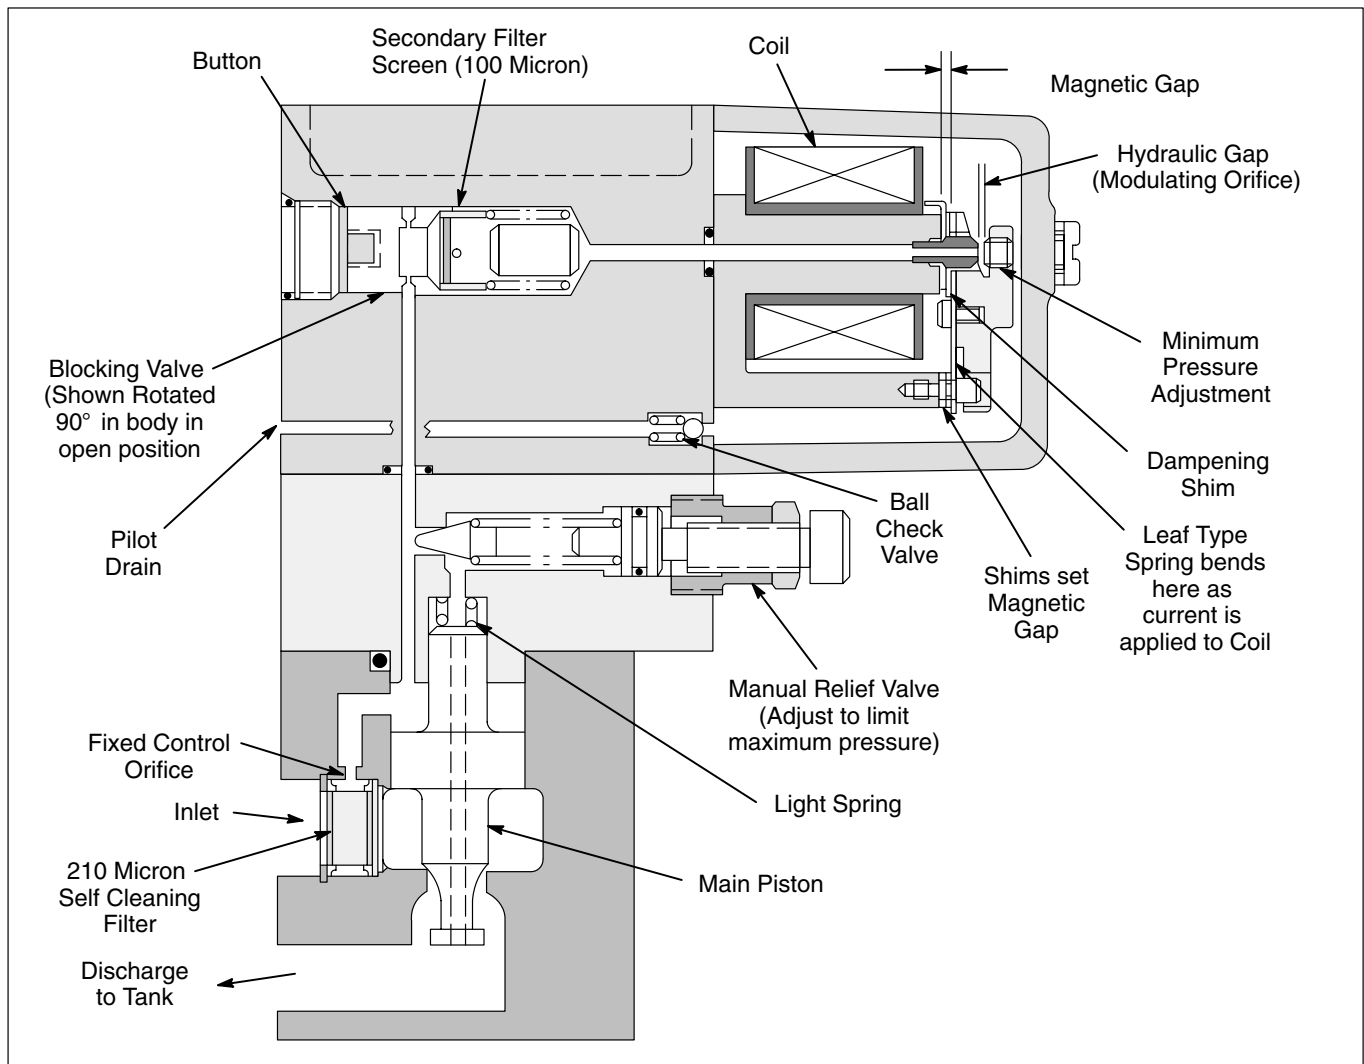

Figure 2. Complete Electrically Modulated Relief Valve Functional Diagram.
1. **Flapper, Nozzle and Coil:** The flapper nozzle is analogous to a poppet/seat with a spring type of control in that it is a force balance system. When current is applied to the coil, the resultant magnetic force pulls the flapper toward the pole piece. This results in a smaller hydraulic gap (orifice) and a build up of pressure at the upstream side of the valve. This increasing pressure produces a force which opposes the magnetic force and a balance is achieved with pressure being approximately proportional to current. Refer to Figure 2.
6. **Secondary Filter Screen:** A 100 micron screen located close to the nozzle helps prevent plugging of the flapper orifice. To change or clean this screen, remove the blocking valve spool. The screen is located in the end of the spool. See Figure 2.
7. **Ball Check Valve:** A ball check valve is used to keep the pilot valve cover full of oil during shut down. See Figure 2.
Refer to Figure 2 during the following discussion.